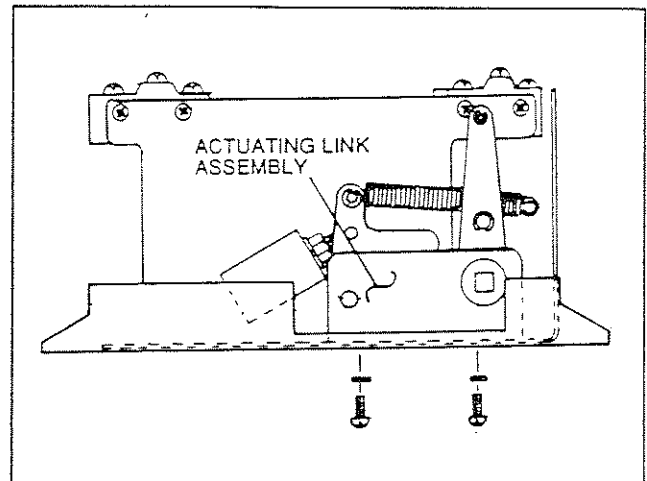

Figure 12. Actuating Link Assembly Screws
2. See Figure 12. Remove two (2) screws that retain the actuating link assembly to the transfer mechanism base.
3. You should be able to lift the actuating link assembly sufficiently high to remove the two (2) screws that retain limit switch LS2 to its support.
4. Remove the two (2) screws.
5. Remove limit switch LS2, along with two (2) insulator strips. LS2 wires have soldered connections.